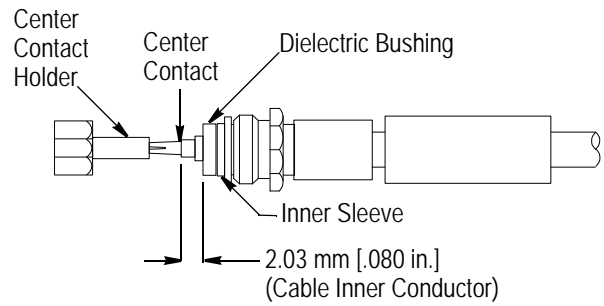

Figure 4
3.3. Solder Center Contact to Cable (Figure 4)
3. Trim, and de-burr, the cable inner conductor projection to the length given in Figure 4.